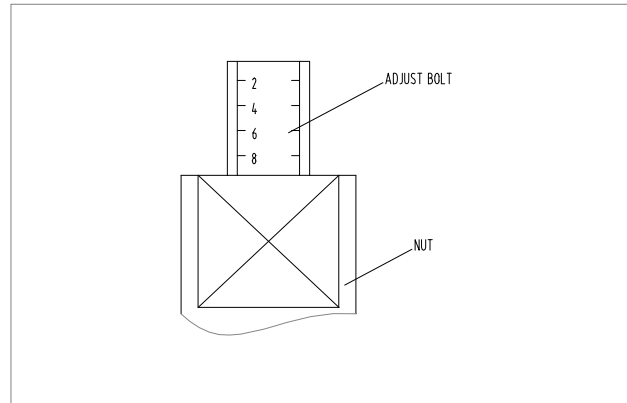

Fig 1
(2). The delivery of K2000C can be adjust from 2ml to 10ml one cycle. adjust bolt is adjusted (Fig 1).The figure on the adjust bolt is the oil delivery. If you need the delivery is 4mm/cyclic,you turn the adjust bolt and Oil delivery will be change when the let its read 4.